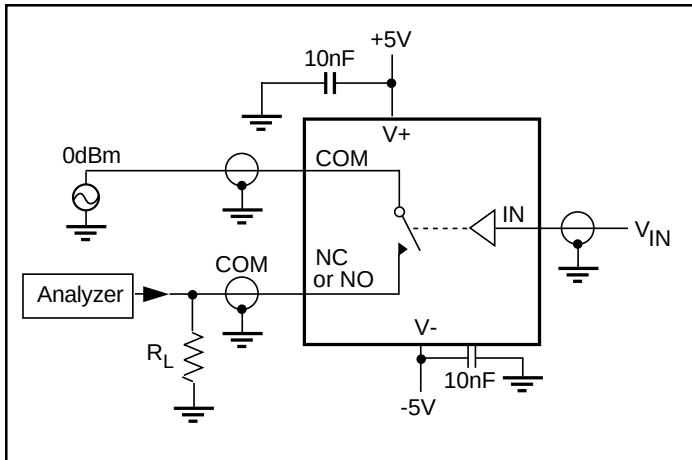

Figure 5. Off Isolation
| Off Isolation (7)                | O IRR      | R L = 50Ω, C L = 5pF, f = 1MHz, Figure 5                |            |                     | −72                 |                     | dB    |